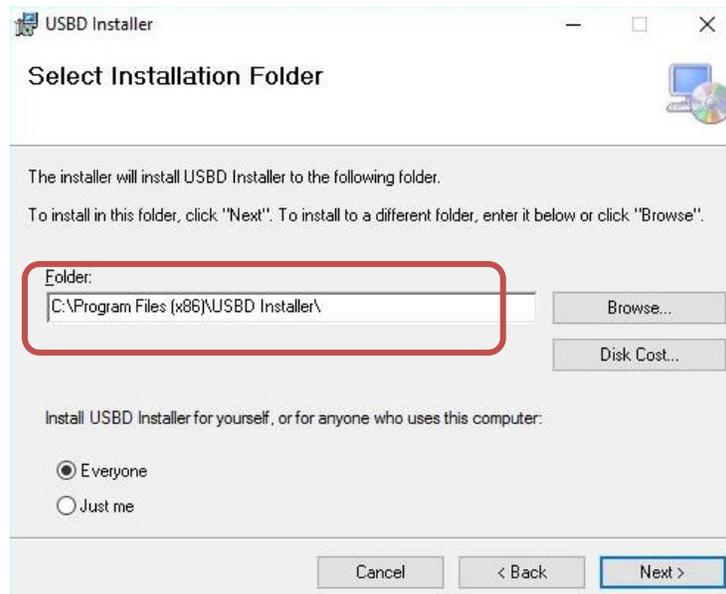

Figure 19 Driver installer location
4. Follow the instructions for the installer and click Next button. Take note of the USBID_Installer folder location, the driver installer will be copied there (Figure 19).